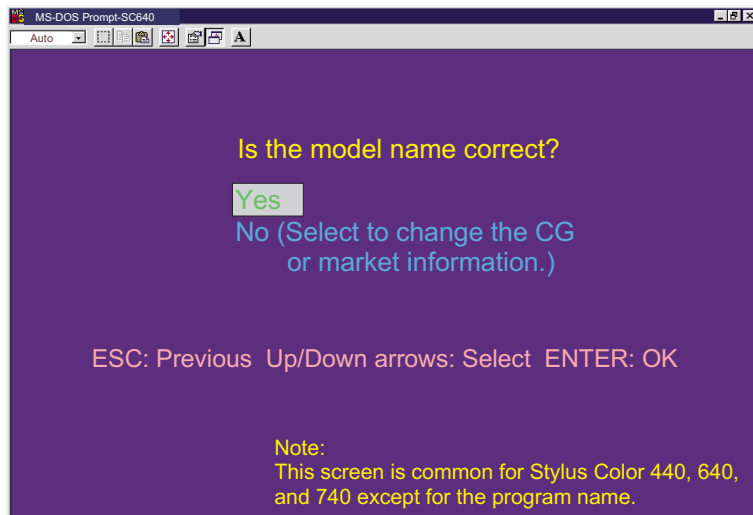

Figure 5-7. Initial Screen (2)
After a few seconds, the model name appears on the Initial Screen (2) (Figure 5-7). Proceed to one of the following steps.
Select **"No"** on the Initial Screen (2) (Figure 5-7), and the screen below appears.
The program automatically returns to the Initial Screen (2) (Figure 5-7) after a few seconds.
2. In the main menu (Figure 5-7), select **Maintenance** using the Up/Down arrow key, and the Maintenance Menu below appears.